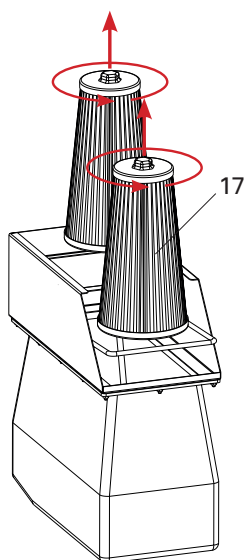

Fig. 21
- Turn over the filter unit with the opening facing upwards. (Fig.21)